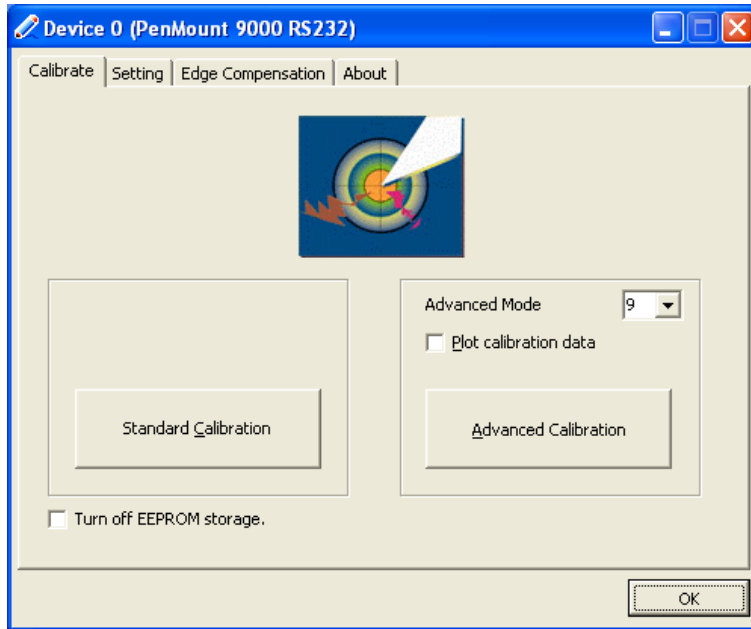

Figure 5-20: Calibration Initiation Screen
Step 7: The calibration initiation screen in **Figure 5-20** appears.
Step 8: Select the **Standard Calibration** button as shown in **Figure 5-20**.